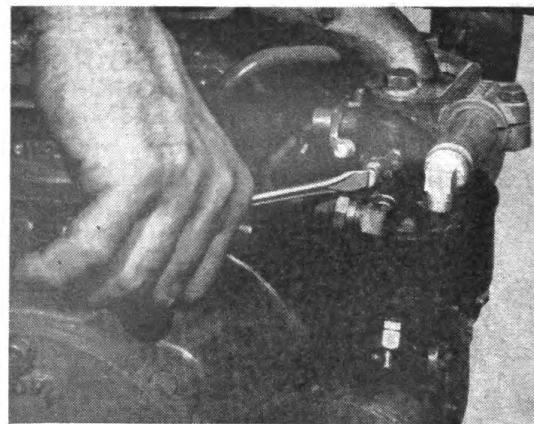

Figure 46
(1) If engine does not run smoothly at the normal idling speed (approximately 1100 R.P.M.), manually open the throttle until a minimum steady idling speed is reached. Turn low speed adjustment (See Figure 46) gradually to right or left until the engine runs as steady and fast as this throttle position will permit. This adjustment operates on air so that screwing it IN gives a richer mixture; OUT a leaner one. If after adjusting the engine idles too fast or too slowly, the desired speed (ap-